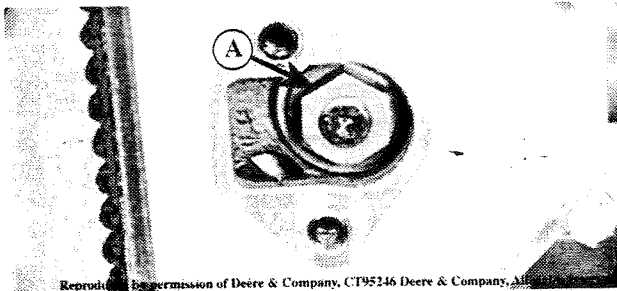

Figure 18.
7. Push pump drive gear firmly onto shaft taper. Install washer and retaining nut (Fig. 18,A) onto end of shaft. Tighten retaining nut to 150 foot lbs. (200 N•m).